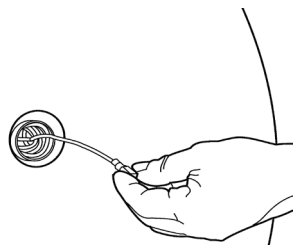

figure 16
2. Pull out the grey sensor wire from Blower Outlet (figure 16).